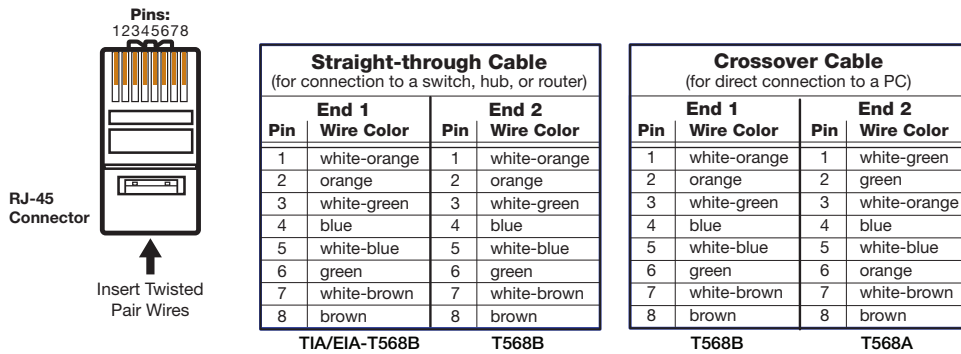

Figure 10. Wiring for Ethernet Control
- Use a crossover cable or a straight-through cable for connection directly to a PC. Wire the connector as shown in figure 10.